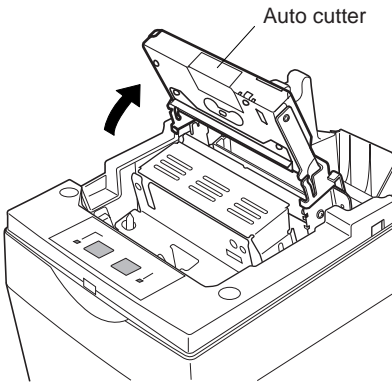

Fig. 6-9 Raise the auto cutter
- ① Turn off power to the printer.
- ② Lift the cover up approx. 3 cm. Hold the cover tilted at this angle, then pull it toward you to remove it.
- ③ Lift up the auto cutter and put it in a vertical position, as shown in Fig. 6-9.